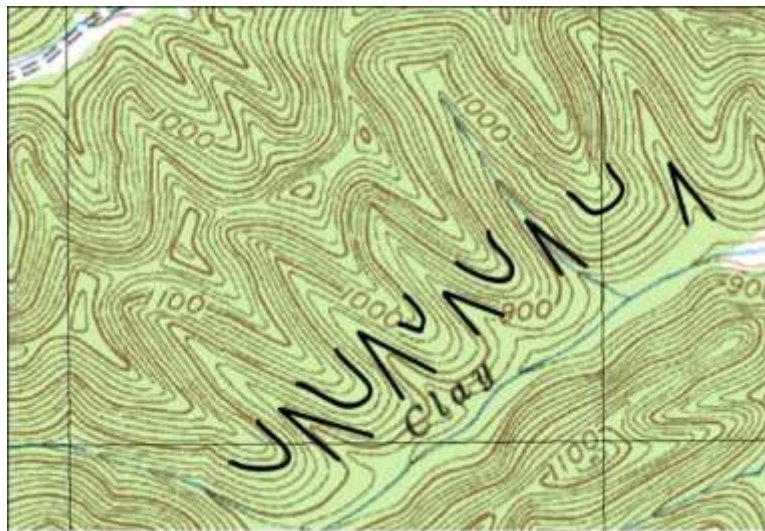

Figure. 1: Valley and cliff point on the map
5. Identify the landscape, the contour line closer the contour lines are together(the steeper the gradient), and flatten gentler slopes(see Figure.1 below).